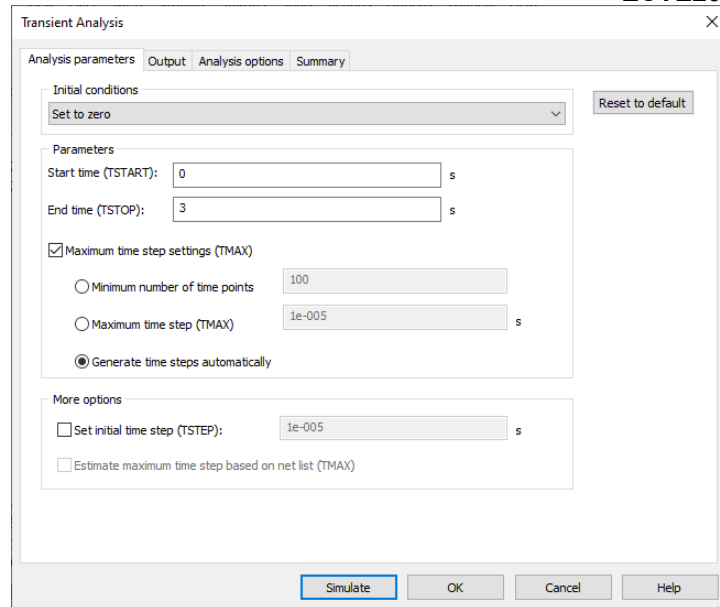

Figure 3.3 Transient Analyses Parameters Tab
3. Choose menu "Simulate | Analyses | Transient Analysis". You should get an Analyses Parameters tab, similar to Figure 3.3